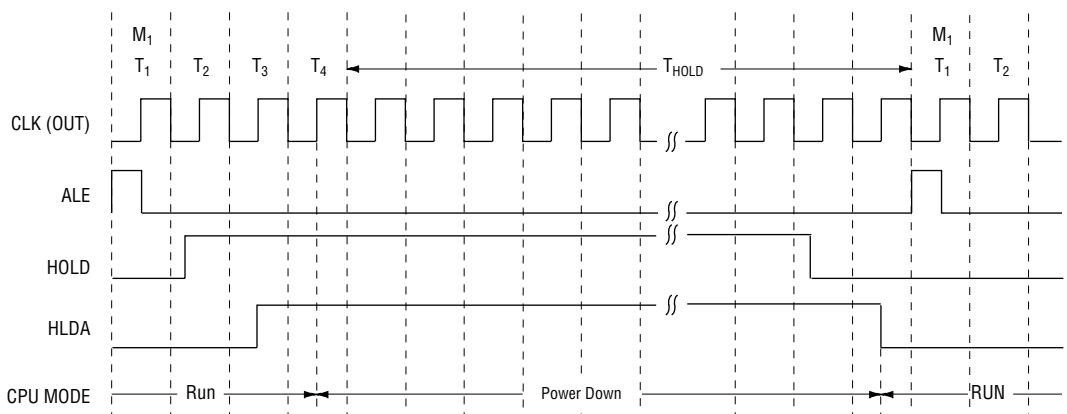

Figure 8 Started and Released by HOLD
### **(2) Start by means of HOLD pin (See Figure 8.)**